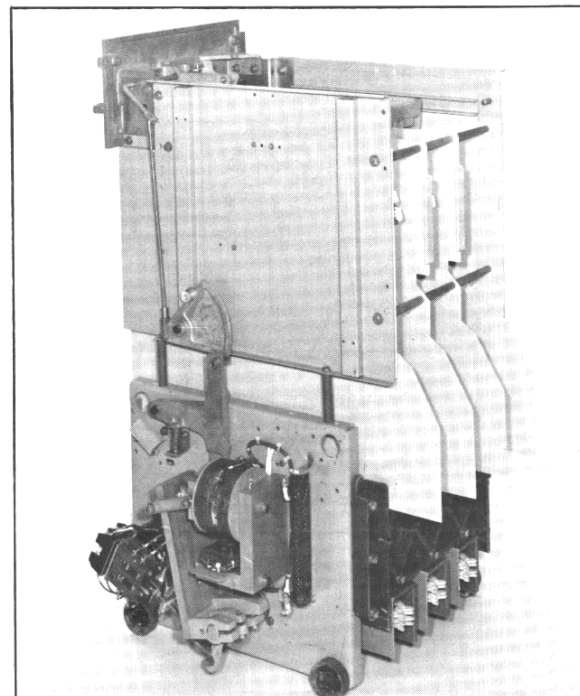

Fig. 7. LFR4C Isolating Switch (Photo 75-0157)
Contactor To Isolating Switch Mechanical Interlock (Fig. 7). The Type LFR4C Isolating Switch functions only as a disconnect; it must never close, or interrupt a power load. To prevent this, the interference lever roller (30) on the contactor is engaged by a cam (24) on the isolating switch. If the contactor is closed, the isolating switch cannot be moved either from the OFF to the ON, or from the ON to the OFF positions. This is a positive interlock, it cannot be cheated without disassembly of the interlocking parts.